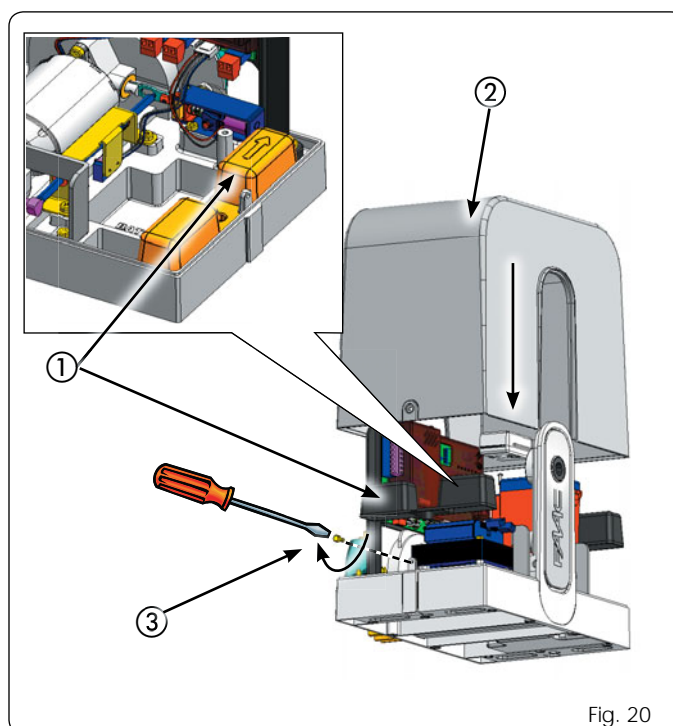

Fig. 20
Press-fit the plastic covers of the operator fastening bolts, ensuring that the arrow is facing the gate (Fig. 20 re. ①), insert the cover casing (Fig. 20 re. ②) and fasten it by the two suitable side bolts (Fig. 20 re. ③).